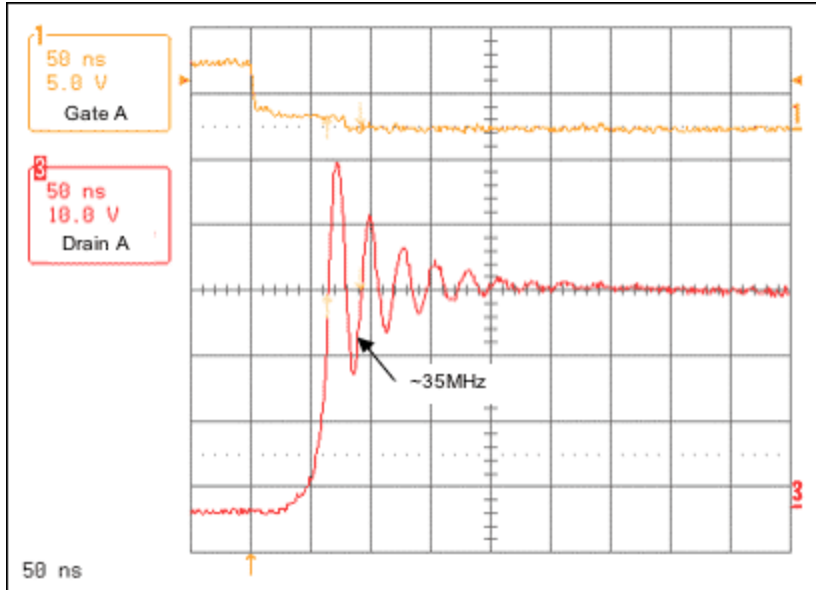

Figure 3. Resonant voltage spike frequency without snubber circuit.
1. Measure the frequency of the spike resonance. See **Figure 3** for an example.
1. Find the frequency of the resonant spike voltage. Figure 3 shows it to be approximately 35MHz.